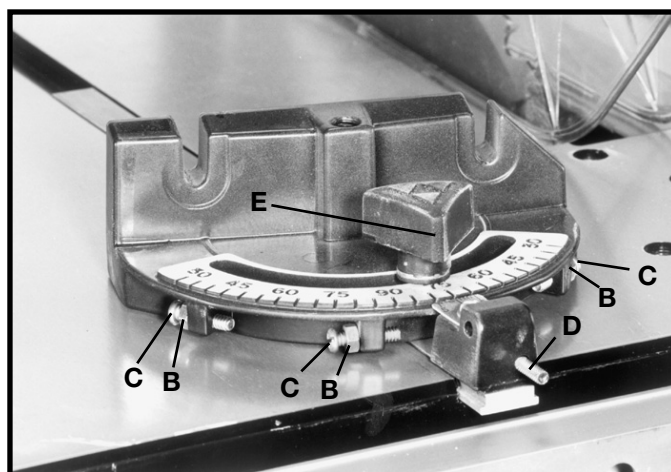

Fig. 44
To operate the miter gage, simply loosen lock knob (E) Fig. 44, and move the body of the miter gage to the desired angle. When the stop pin (D) is pushed in, the miter gage body will stop at 90 degrees and 45 degrees right and left. To rotate the miter gage body past these points, pull out stop pin (D).